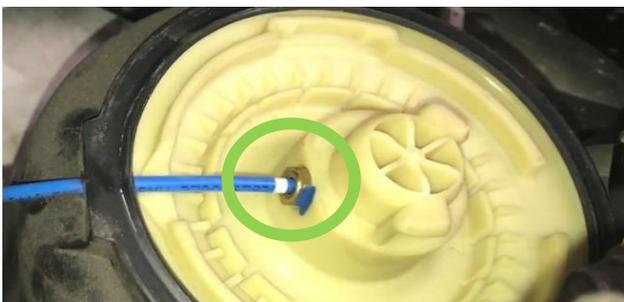

fig.5
8. With the air spring removed from its mountings, undo the air fitting. (fig.5)